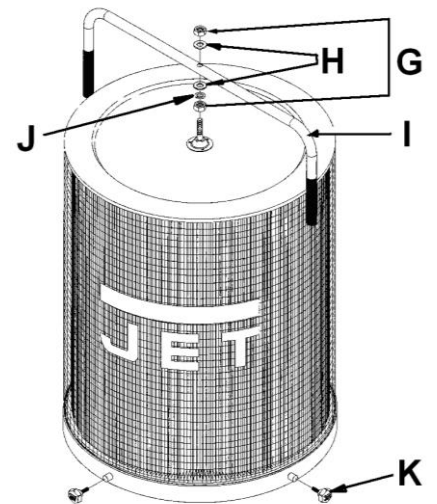

Fig 11
Mount the handle (I, Fig 11) with 2 hex nuts (G), flat washers (H) and a lock washer (J).
To clean the filter on DC-1100CK, turn the handle (I, Fig 11) a couple of rotations so the dust falls into the collector bag.